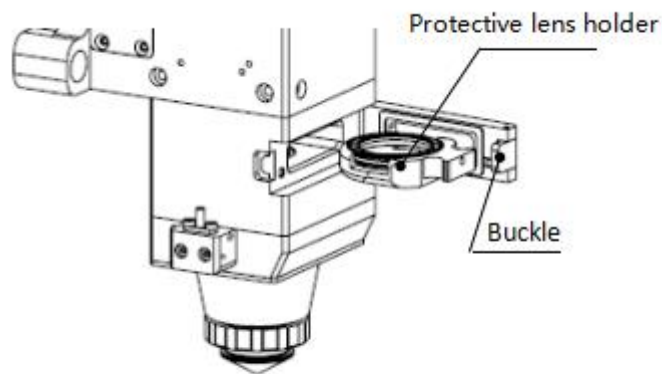

Figure 6.1 — Take out protective lens
It's necessary to maintain lenses regularly because of the characteristic of laser cutting process. Once a week cleaning the protective lenses is recommended. The collimating lenses and focusing lenses are recommended to clean once every 2~3 months. In order to facilitate the maintenance of the protective lens, the protective lens holder adopts a drawer type structure. (Figure 6.1)
- As shown in Figure 6.1, open the buckle, open the cover of protective lens, pinch the two sides of the drawer-type lens holder and pull out the base of protective lens;